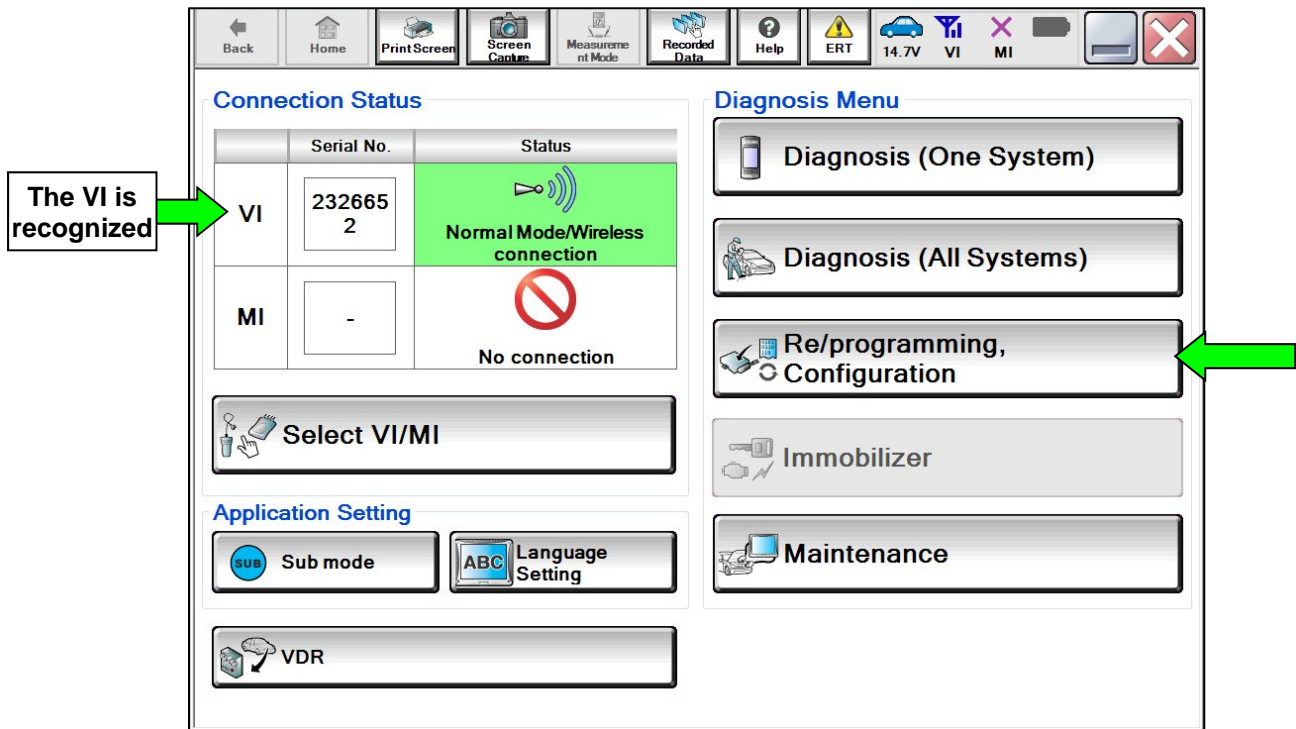

Figure 1
- The serial number will display when the VI is recognized (See Figure 1 on page 3).